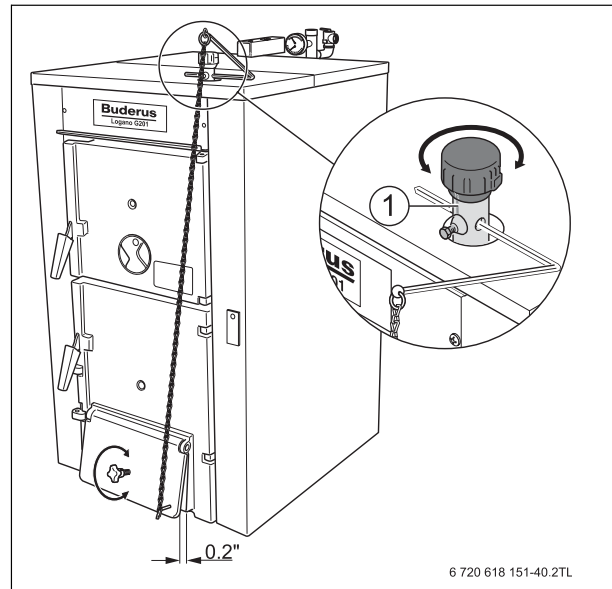

Fig. 29 Setting the firing controller
- Set the firing controller to the red marking (70 °C/ 158 °F) (→ Fig. 29) or depending on the outdoor temperature according to Tab. 9.